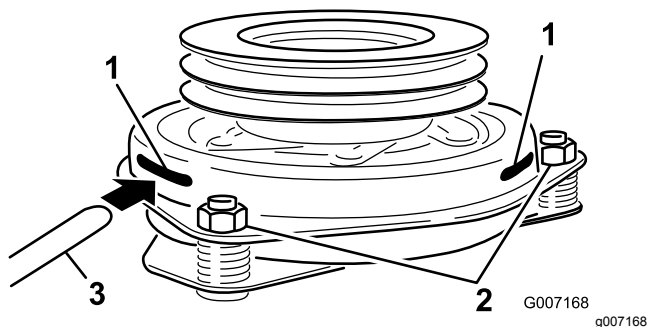

Figure 77
9. Insert a 0.381 to 0.533 mm (0.015 to 0.021 inch) feeler gauge through an inspection slot in the side of the assembly (Figure 77).
10. Tighten the locknuts until there is slight binding on the feeler gauge but it can be moved easily within the air gap (Figure 77).